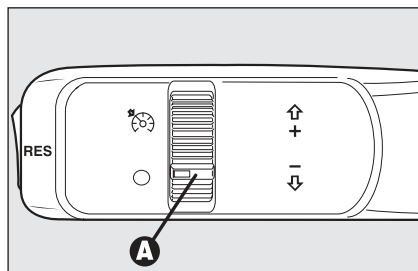

fig. 50
Turn knurled ring **A-fig. 50** to .
- ☐ turn the knurled ring **A-fig. 50** to  and press the accelerator pedal to the required speed;
- ☐ turning the knurled ring **A-fig. 50** to **O**;
*In the event of device malfunction or failure, turn the knurled ring **A-fig. 50** to **O** and contact Alfa Romeo Authorized Services after checking the protection fuse integrity.*